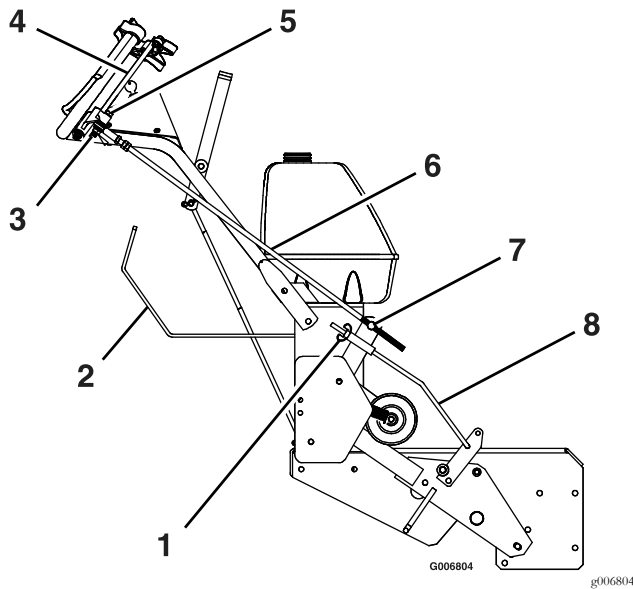

Figure 22
- A. Locate a drive lever linkage on one side of the unit and remove the 5/16-18 x 1 3/4 inch hex cap screw and 5/16-18 inch nyloc nut (see Figure 22).
- B. Thread drive lever linkage into or out of the swivel located on the wheel drive idler arm until the flat edge of the drive lever aligns with bottom of the roller notch in the neutral lock/park brake latch (see Figure 22).
- C. Re-install the 5/16-18 x 1 3/4 inch hex cap screw and secure with the 5/16-18 inch nyloc nut. Repeat for the other side (see Figure 22).